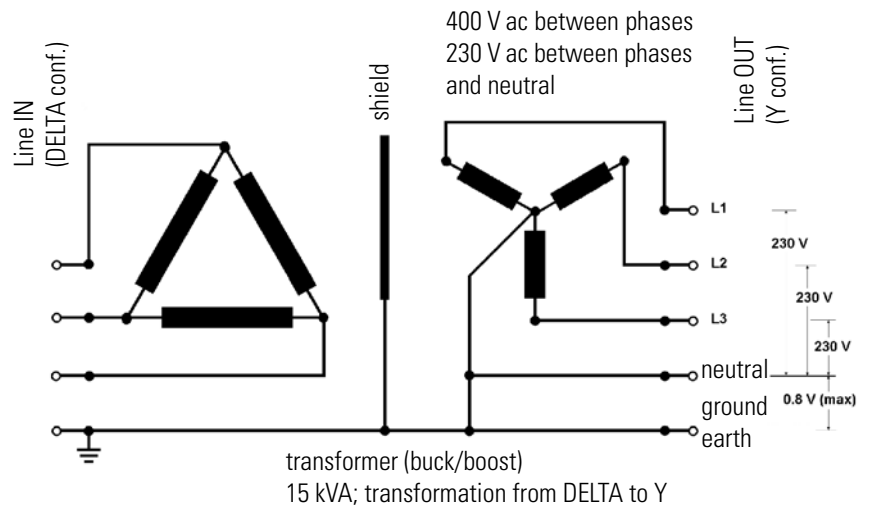

Figure 3-2. Delta-to-Y conversion
- Three phases, 5-wire system in Y configuration (neutral wire connected to earth). For further information, see Figure 3-2.
In addition, the voltage between ground and neutral should not exceed 1 V. See Figure 3-2 on page 3-9. Note the definitions for the most common voltage disturbances below:
Note In Y configuration, the nominal voltage of 230 V ac must be measured phase to ground. Between the phases, 400 V ac is measured. See Figure 3-2. ▲